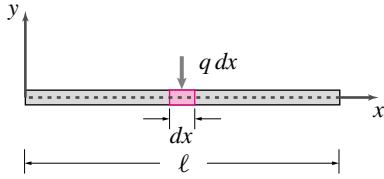

Figure 8.11
1. **The net force:** Because the load is uniformly distributed along the length, we can find the total (or net) load by calculating the load on an infinitesimal segment of length dx of the beam and then integrating over the entire length of the beam. Let the load intensity (load per unit length) be q ($q = 100$ N/m, as given). Then the vertical load on segment dx is (see Fig. 8.11),